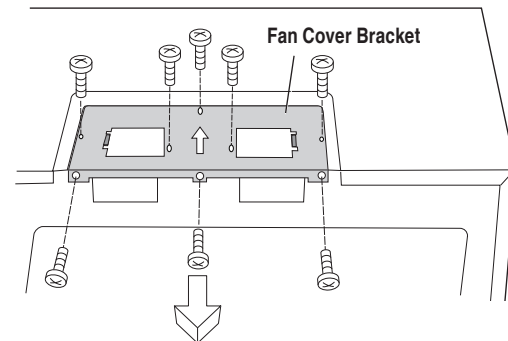

Figure 11
1. Remove and save 3 screws from back edge and 5 screws from the top of the Fan Cover Bracket to use at Step 5. Remove Fan Cover Bracket by sliding it in the opposite direction of the arrow on the Fan Cover Bracket as shown in Figure 11.